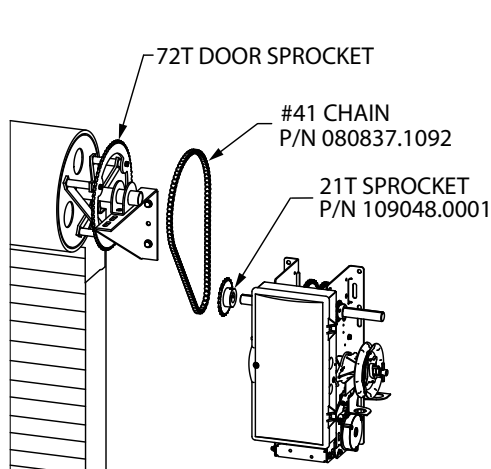

FIG. 1
1. Attach 21 tooth sprocket to operator output shaft. FIG. 1.